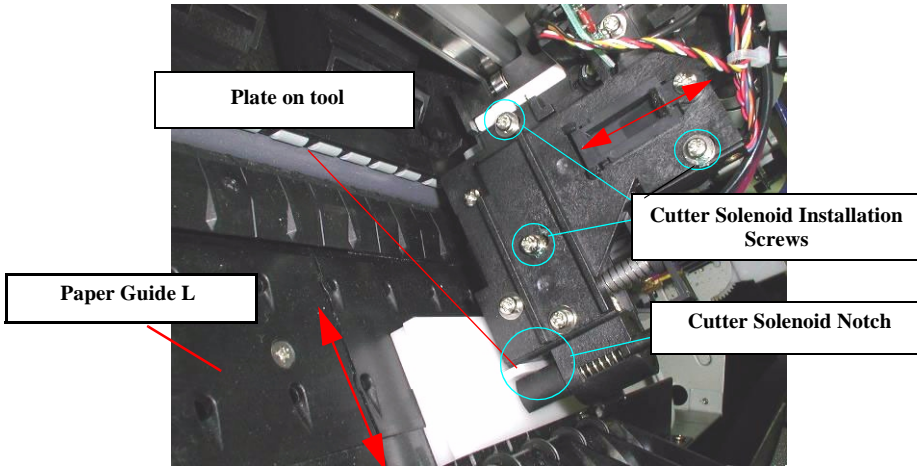

Figure 5-52. Moving the CR Unit
5. Loosen the three cutter solenoid installation screws, then push the cutter holder until its front end reaches the tool, then tighten the 3 installation screws. See Fig. 5-52 for the positions of the installation screws.